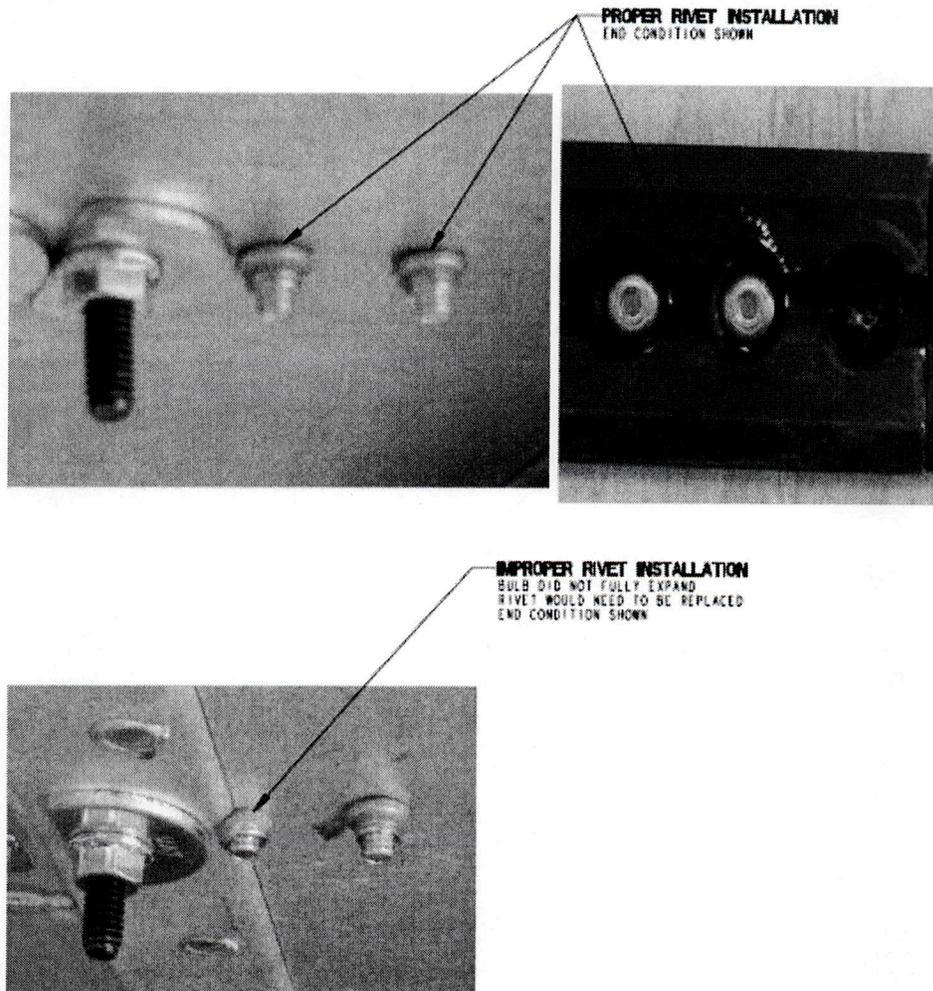

Figure 2
- 6) Make sure that the rivet is seated properly as shown in **Figure 2**. If it does not seat properly, drill out and reinstall.